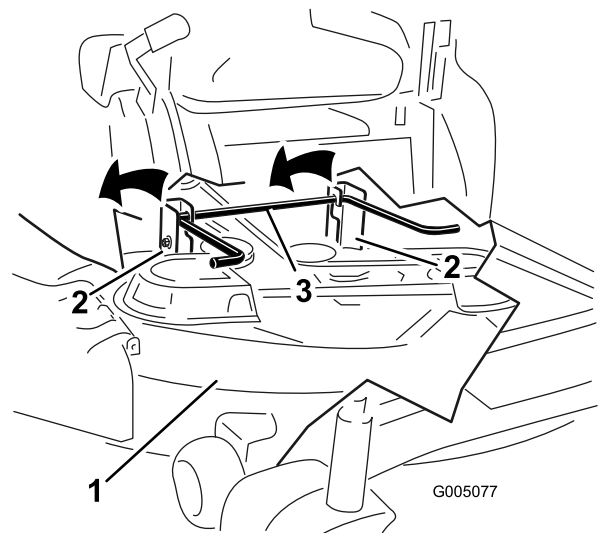

Figure 56
5. Lift the mower deck and hanger brackets clear of the rear lift rod and lower the mower carefully to the ground (Figure 56).
5. Lift the rear of the mower deck and guide the hanger brackets over the rear lift rod (Figure 56).